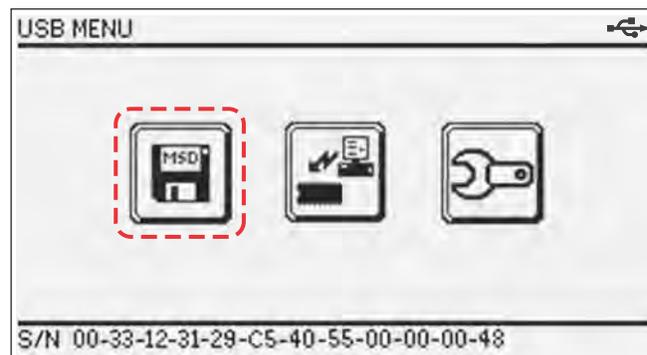

Figure 2-18 Sample connect to PC screen
The MICROSCAN III automatically powers up to the USB Power Menu (Figure 2-18).
3. Tap the **Connect to PC** button (Figure 2-18) on the MICROSCAN III touch screen to select.